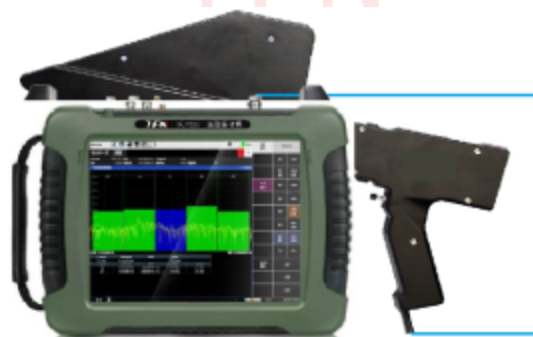

Figure 7.6 Connecting diagram of handheld DF antenna and RMT series spectrometer
Step 1. Connect the handheld DF antenna to the RF input port of the RMT series spectrometer, as shown in Figure 7.6: